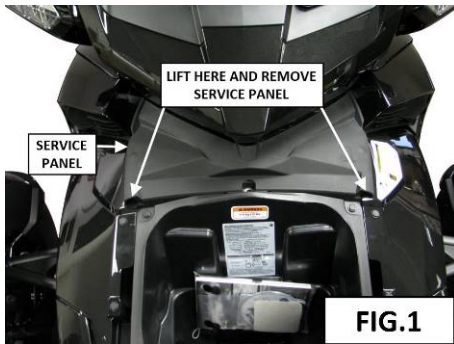

FIG. 1
1. OPEN THE FRONT TRUNK AND REMOVE THE SERVICE PANEL SHOWN IN FIG. 1.